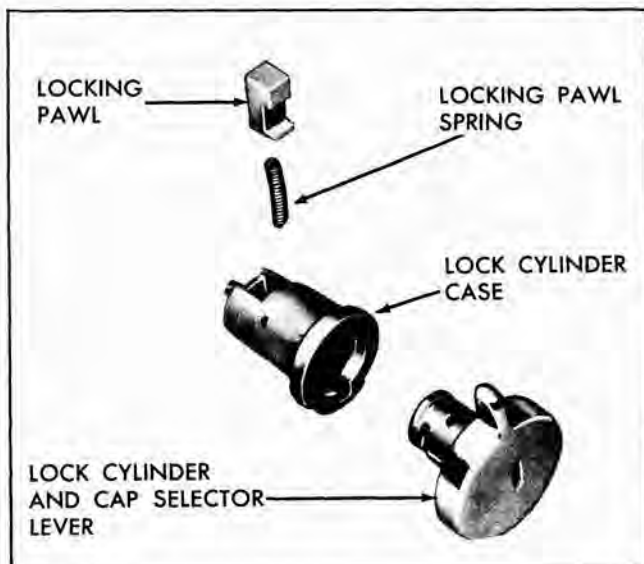

Fig. 5-17 Lock Cylinder - Manual
3. Insert a piece of wire (paper clip) in hole on face of lock cylinder cap (selector lever). While holding lock cylinder case, depress plunger with wire sufficiently to allow key and selector lever to be turned counterclockwise approximately 1/8 turn; then, remove lock cylinder and cap (selector lever) assembly from handle assembly (Fig. 5-17).
NOTE: When removing lock cylinder and cap assembly from case, place finger over locking pawl to prevent pawl and spring from popping out (Fig. 5-17).